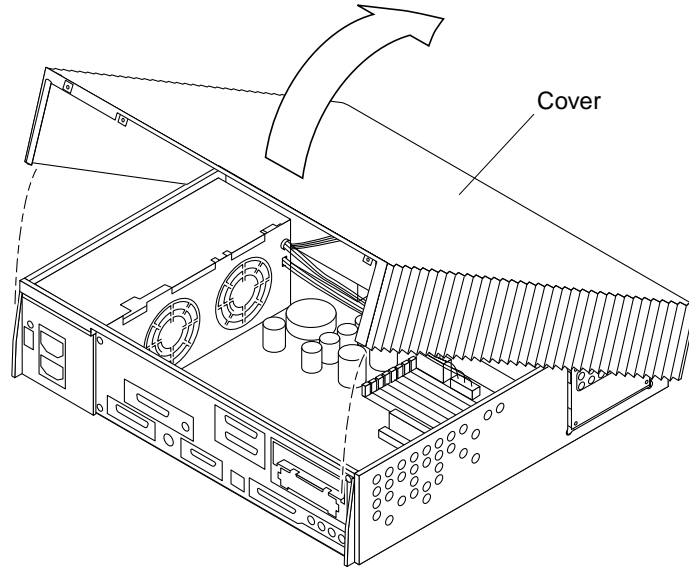

Figure 2-3 Removing the Cover
4. Grasp the sides of the cover and lift up the back of the cover (Figure 2-3). After the cover clears the back panel, push the cover away from the front panel.